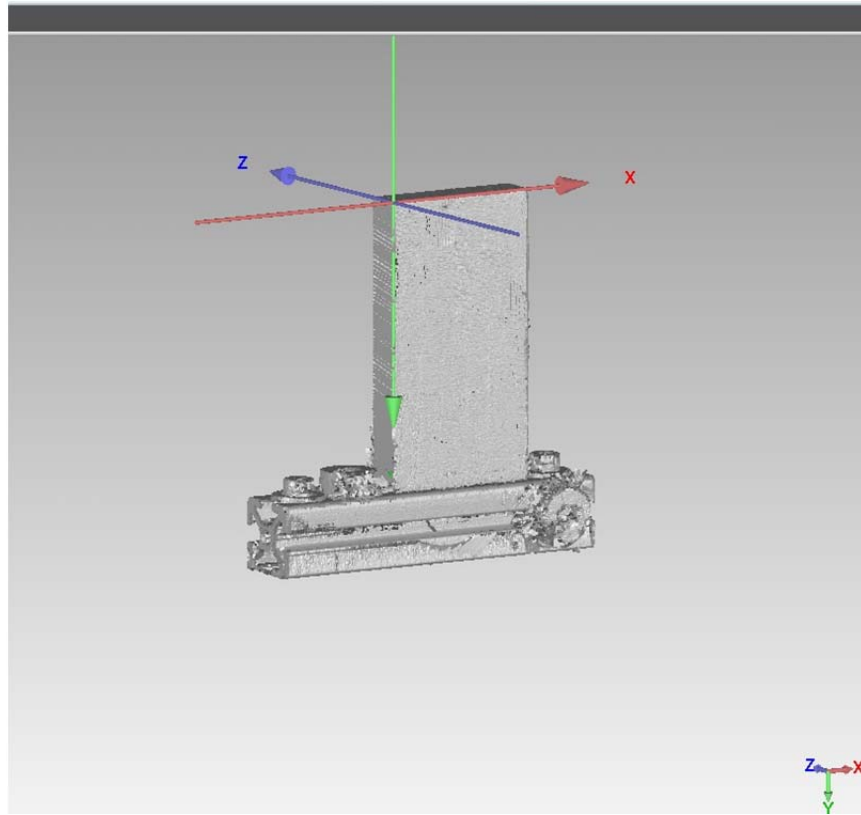

Figure B-8. Show Coordinate System Command
11. You can see the coordinate origin by going to the View tab and clicking on the show coordinate system icon (Figure B-8).